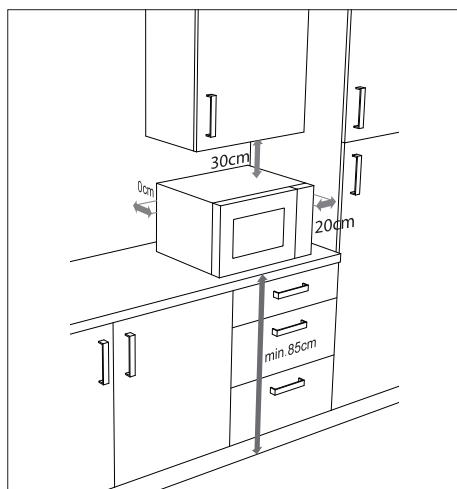

Fig. 4 – Appliance clearance
- ▶ To ensure adequate ventilation, the clearances specified in **“Fig. 4 – Appliance clearance”** must be maintained. The spacer at the back of the appliance must touch the wall. It ensures that the correct clearance is maintained when positioning the microwave.